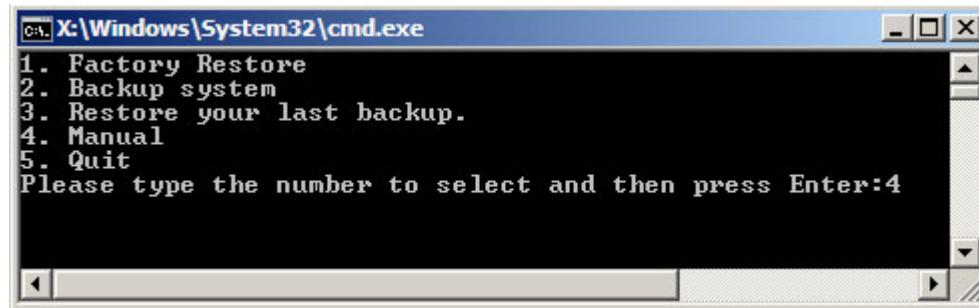

Figure B-11: Recovery Tool Menu
Step 2: The recovery tool menu appears. Type <4> and press <Enter>. (Figure B-11)